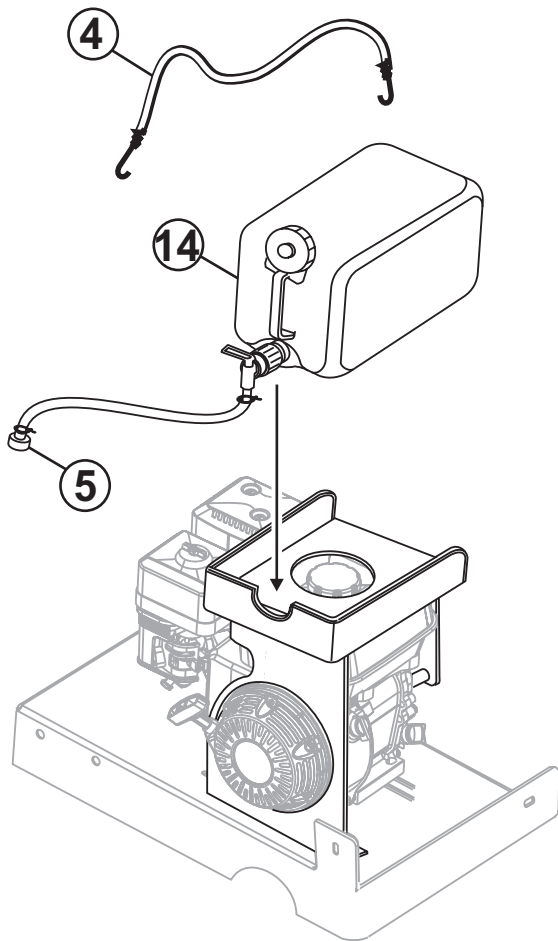

Figure 27. Water Tank Position
- 9 Place the Water Tank (with the hose assembled), onto the Tank Shelf so the valve and hose are resting in the notch of the top of the Tank Shelf. (Figure 27)
10. Place the Bungee Cord (item 4) over the Water Tank (item 14) so it securely holds the tank onto the Shelf.
11. Disconnect the existing water hose from the saw blade guard and connect instead, the new hose using the Swivel Connector. (item 5)